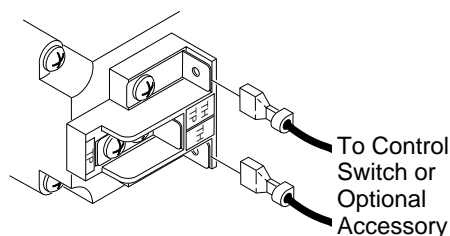

Figure 44 - Control Valve Terminals
1. Connect one terminal of 25 ft. wire for the wall switch to the TPTH terminal on the valve. Connect remaining wire terminal to the TH terminal on the valve. Make sure that the wire terminals are in the positions on the unit as pictured in Figure 44. If wires are not connected as shown the switch will not work.
3. Connect one terminal of the wire for the wall thermostat to the THTP terminal on the valve. Connect remaining wire terminal to the TH terminal on the valve. Make sure that the wire terminals are in the positions on the unit as pictured in Figure 44. If wires are not connected as shown the thermostat will not work.
3. Disconnect wires from THTP and TH on control valve that lead to the switch (see Figure 44, page 21). Discard switch plate, screws, and nuts.
7. Connect the wires from the receiver to the valve at TH and THTP (see Figure 44, page 21).